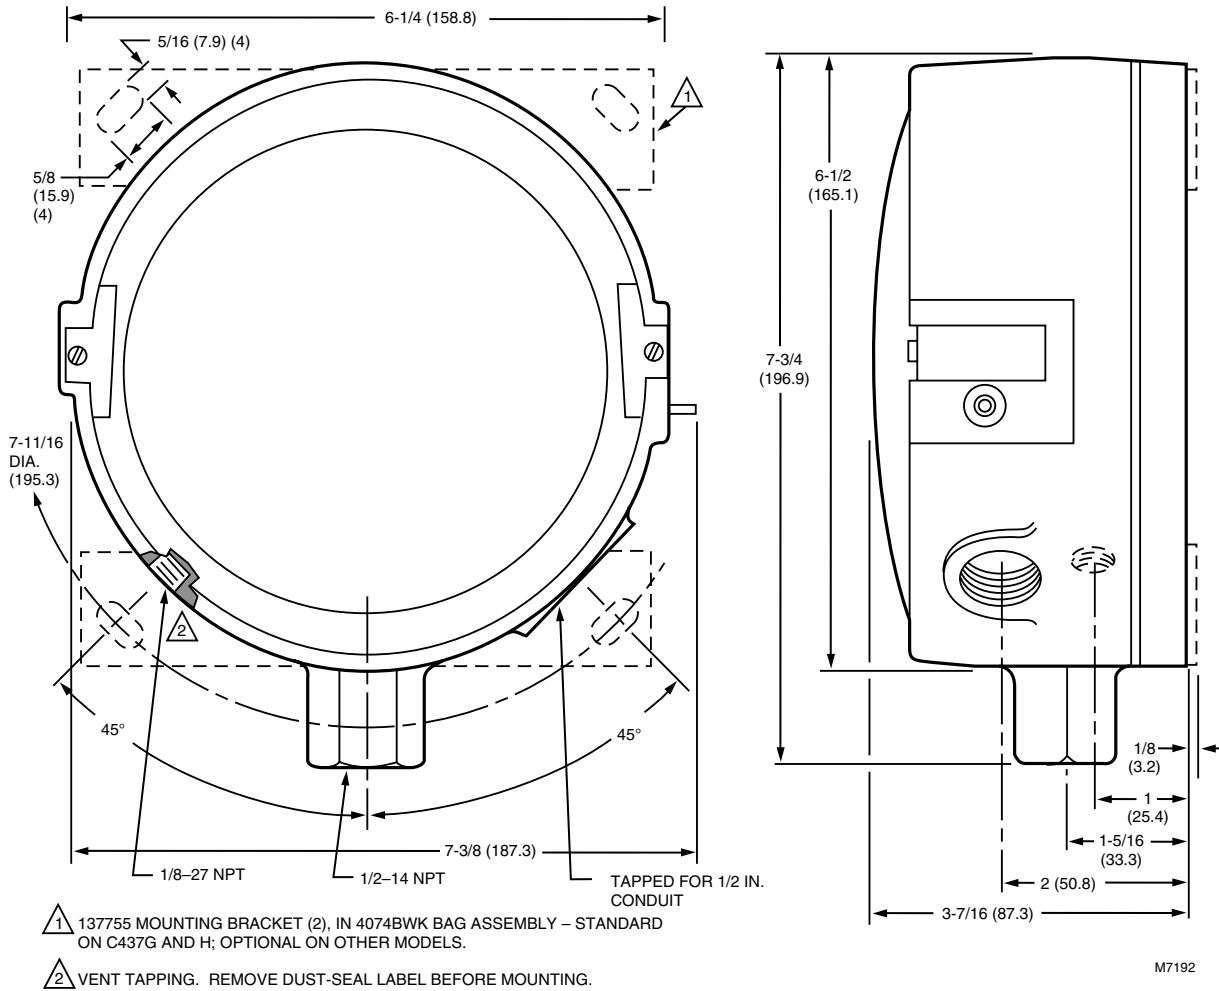
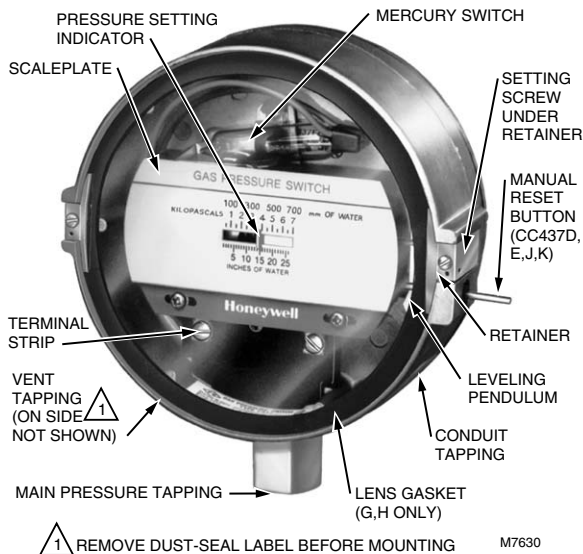

Fig. 1. Installation dimensions of the C437 and C637 gas pressure switches, in in. (mm).
Fig. 2. Principal parts of the gas pressure switch.
brackets are shown by dashed lines in Fig. 1.
Fig. 1 shows the mounting dimensions for the C437 and C637 models, and for the accessory mounting bracket (standard on C437G and H). See Fig. 2 for the individual components.
Remove the retainer and adjust the *setpoint* for the desired operating pressure (cutout pressure on a C437D,E,G, or H spst model) by turning the setting screw (Fig. 2) clockwise ↻ to increase the setpoint and counterclockwise ↻ to decrease it.
To reset one of these pressure switches, wait until the pressure *falls* to the setpoint minus the differential (C437D or J), or *rises* to the setpoint plus the differential (C437E or K). Then depress the manual reset button (Fig. 2) and release it. *The pressure switch will not be reset until you release the manual reset button.* This prevents the switch from becoming an automatic-reset device if the reset button is stuck, held in, or tied down.
- Turn the setting screw (Fig. 2) slowly toward a lower pressure setting (counterclockwise ↺) to simulate a pressure increase.
- Push the manual reset button (Fig. 2) on the C437D or J; the C437D should make, and the C437J should break R to W and make R to B.
- Push the manual reset button (Fig. 2) on the C437E or K; the C437E should make, and the C437K should break R to B and make R to W.